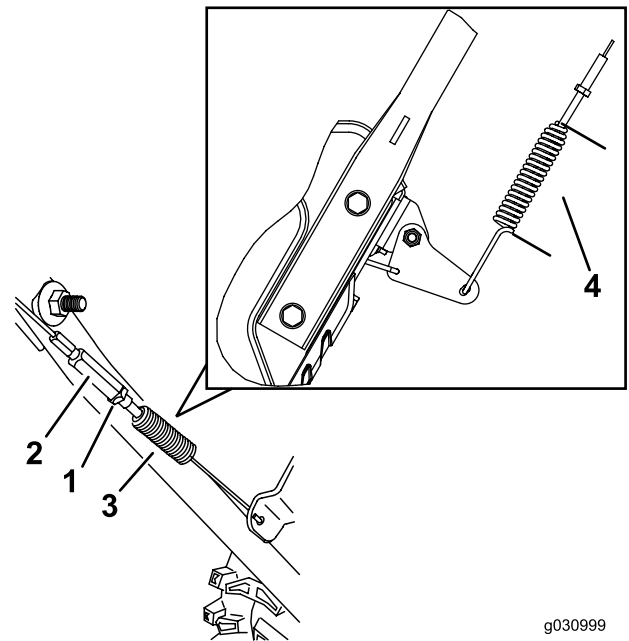

Figure 33
3. Loosen or tighten the turnbuckle to adjust the spring length to 5.5 cm (2.18 inches) as shown in Figure 33.
4. Tighten the jam nut (Figure 33), ensuring there is slight tension on the cable.